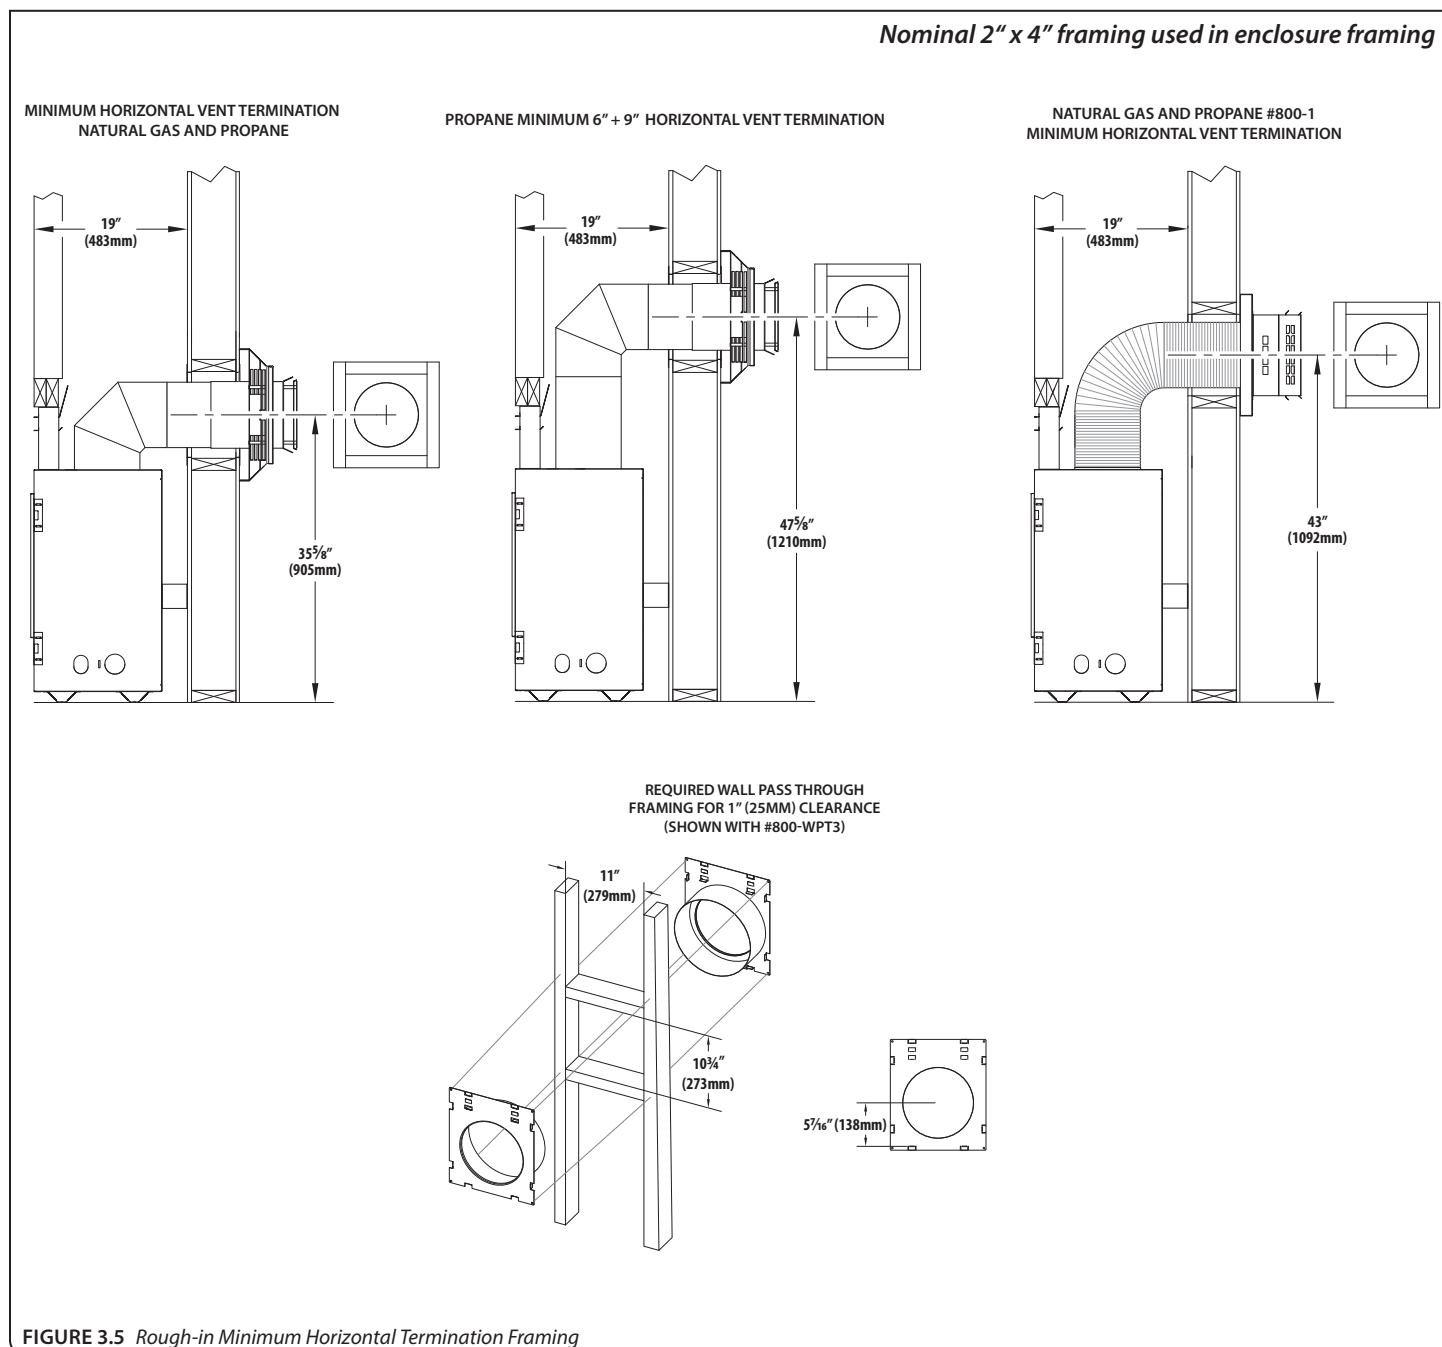

FIGURE 3.5 Rough-in Minimum Horizontal Termination Framing
1. Measure from floor level of the fireplace to the center of where the vent pipe will penetrate the wall. The dimensions in **FIGURE 3.5** are used with a Simpson DuraVent elbow.
- Rigid pipe dimensions in **FIGURE 3.5** reflect Simpson DuraVent 5" x 8" coaxial pipe. Other manufacturers product dimensions may vary.
- Flexible pipe framing dimensions in **FIGURE 3.5** reflect Kozy Heat #800 Series Flexible Vent System.